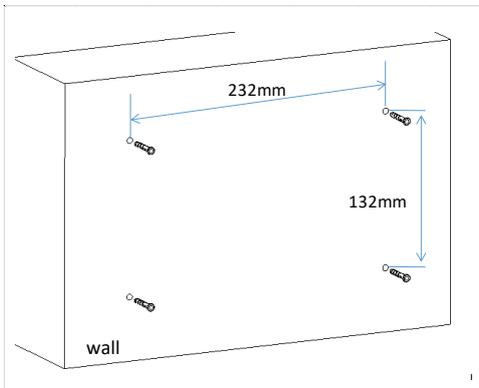

Figure 4-9
1. Drill holes in the wall ($\Phi 6 \times 30\text{mm}$) according to the dimensions shown in Figure 4-9, and insert expansion pipe (F).